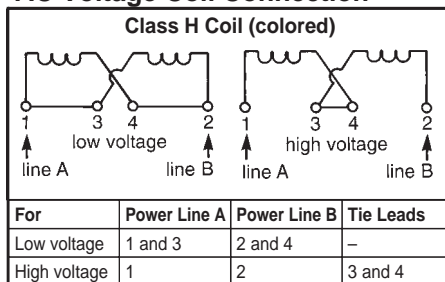

Figure 4
**Note 2:** On brakes with space heater, connect to appropriate power source. Heater is to be energized continuously, even during storage, to prevent condensation and potential rusting. The Series 87,300 Brake is equipped with an AC single-phase coil. Connect single voltage coil to any two leads on single or three-phase motor of the same voltage as the brake. Refer to brake nameplate and coil number for correct voltage and frequency. The brake can also be wired to external switch contacts, providing proper voltage other than that used to control the motor with the motor and brake contacts interlocked. Method of connecting a dual voltage coil for use on low or high voltage is shown in Figure 4. Connect power source to coil terminals.